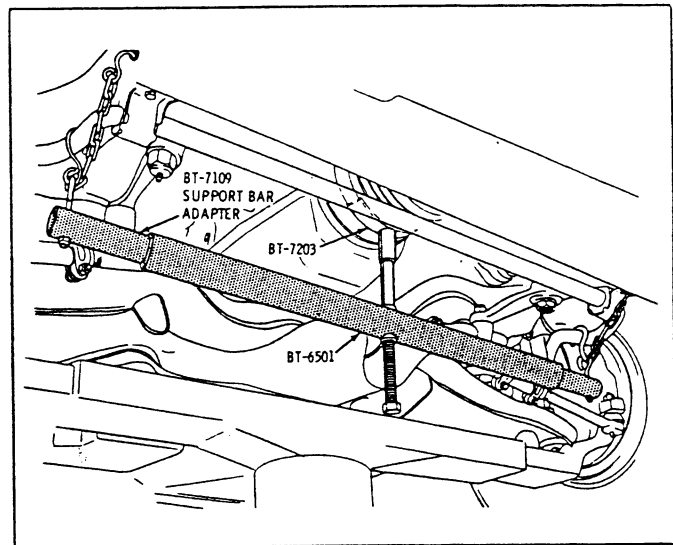

Fig. 30 Engine Support Tools
11. Install engine support BT-6501 and raise engine (Fig. 30).